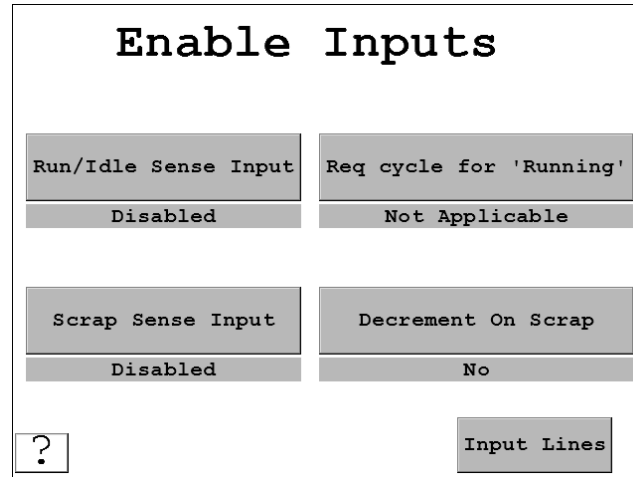

Figure 3-14. Enable Inputs Screen
1. On the Input Lines screen, press *Enable Inputs*. If you have enabled the Run/Idle input, the Enable Inputs screen should look like Figure 3-14, below.